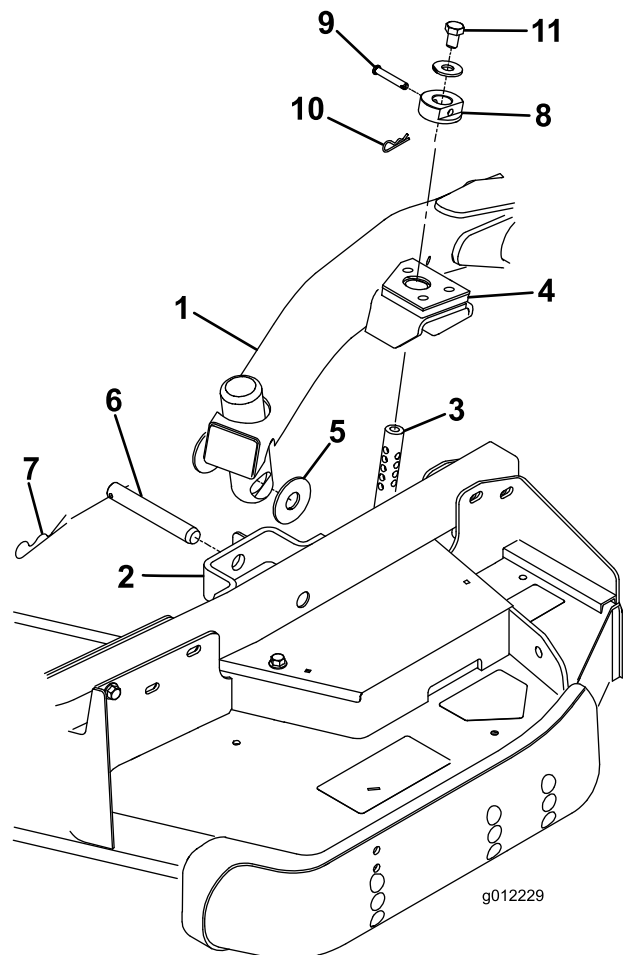

Figure 4
2. Move the lift lever to the Float position. Push a lift arm down until the holes in the lift arm line up with the holes in the castor arm bracket and the height of cut rod can be inserted into the lift arm pads (Figure 4).
3. Secure the lift arm to the castor arm with (2) thrust washers, a clevis pin and a hair pin cotter. Position the thrust washers between the lift arm and the castor arm bracket (Figure 4). Insert end of cotter pin into the slot in the castor arm tab to retain cotter pin.
7. Install the height of cut collars onto the height of cut rods and secure with the clevis pins and hair pin cotters (Figure 4). Head of clevis pin to be positioned toward the front of the deck.
8. Install a 1/2 x 3/4 inch bolt and a washer to top of each height of cut rod (Figure 4).